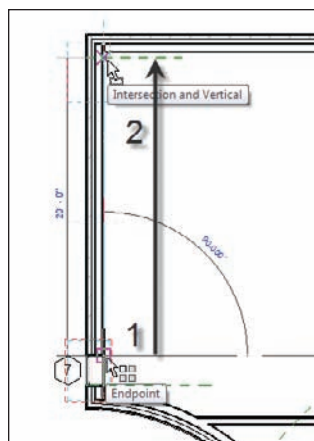

FIGURE 4.22 “Moving” the window to the top reference plane
17. Move your cursor up the wall, and pick a point perpendicular to the top reference plane, as shown in Figure 4.22.